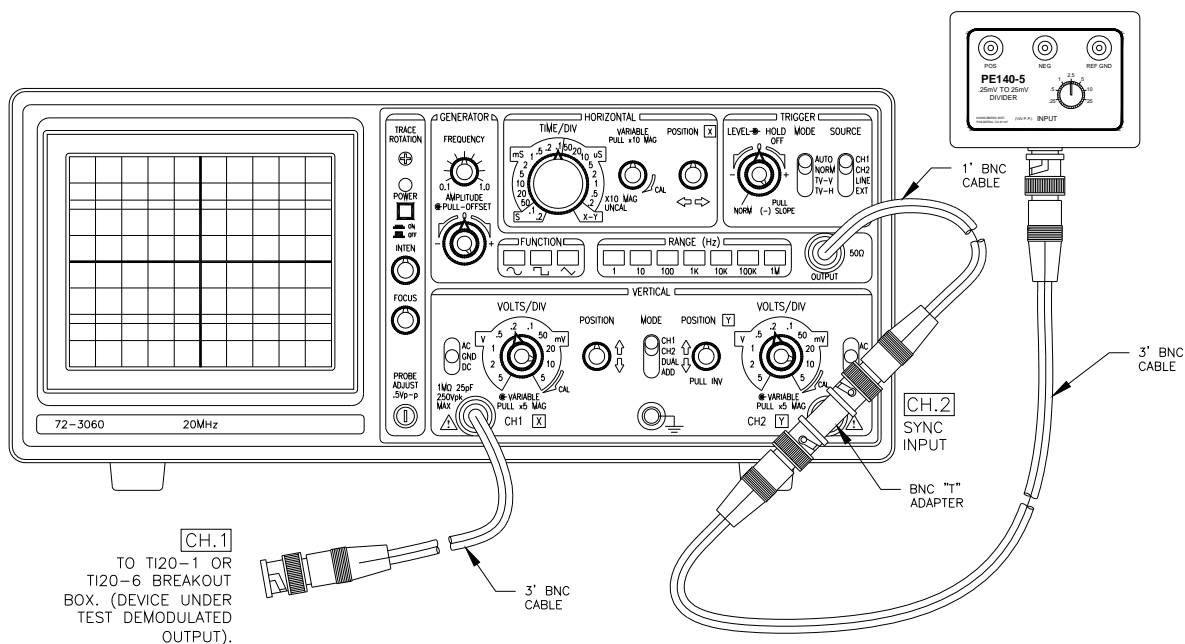

Figure 10
FOR THE PURPOSES OF THE FOLLOWING STEPS THE T50 EMG AMPLIFIER GAINS SHOULD BE SET TO 1,000/10 mVPP inputs. See Figure 10
1. Connect the cables to the oscilloscope and PE140-5 in accordance with Figure 10